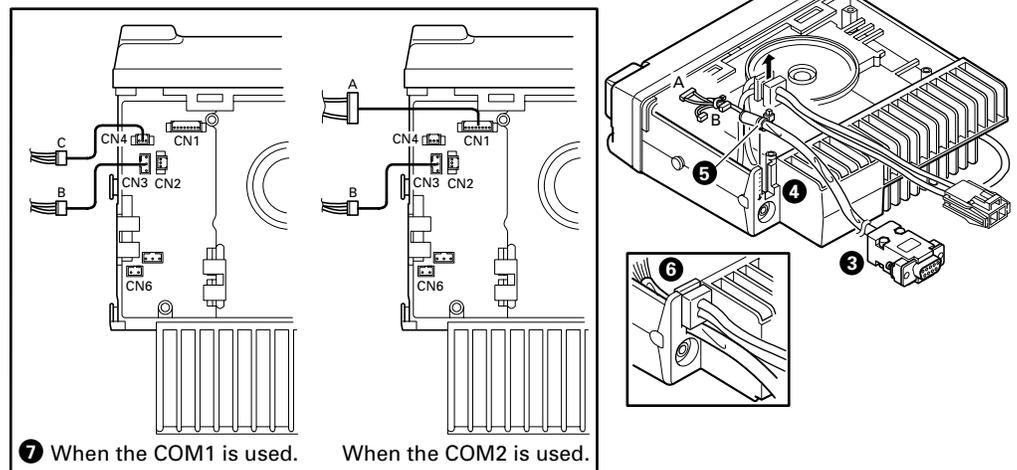

Fig. 9
6. Replace the DC cable bushing (❻).
7. Connect the KCT-31 to the TX-RX unit (A/2) as shown in Figure 9 (❼).